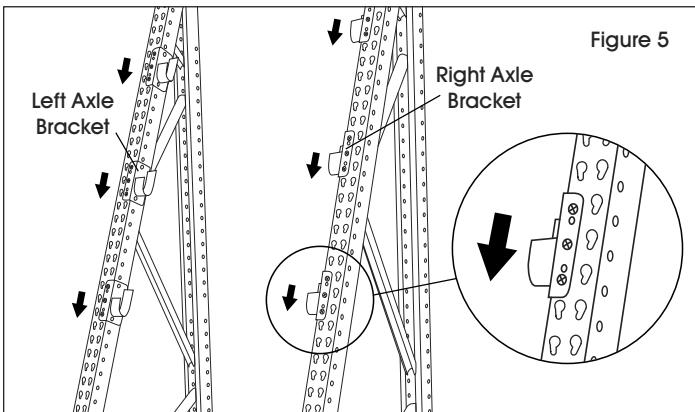

Figure 5
5. Attach axle brackets at the desired level. These attach to the uprights the same way as the support beams in steps 2-4. (See Figure 5)